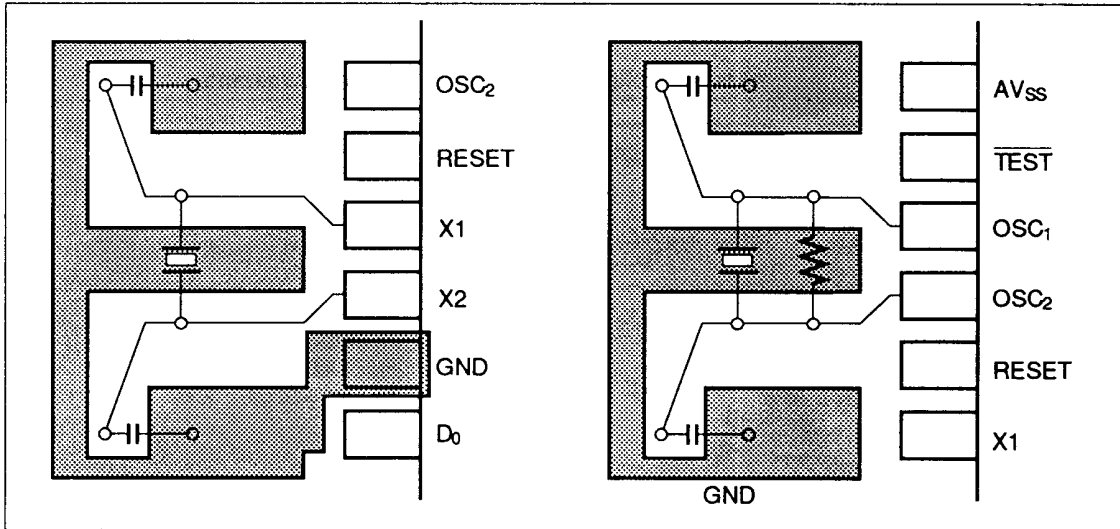

Figure 20 Typical Layouts of Crystal and Ceramic Filters
2. The wiring between the OSC1 and OSC2 pins (X1 and X2 pins) and the other elements should be as short as possible, and must not cross other wiring. Refer to figure 20.